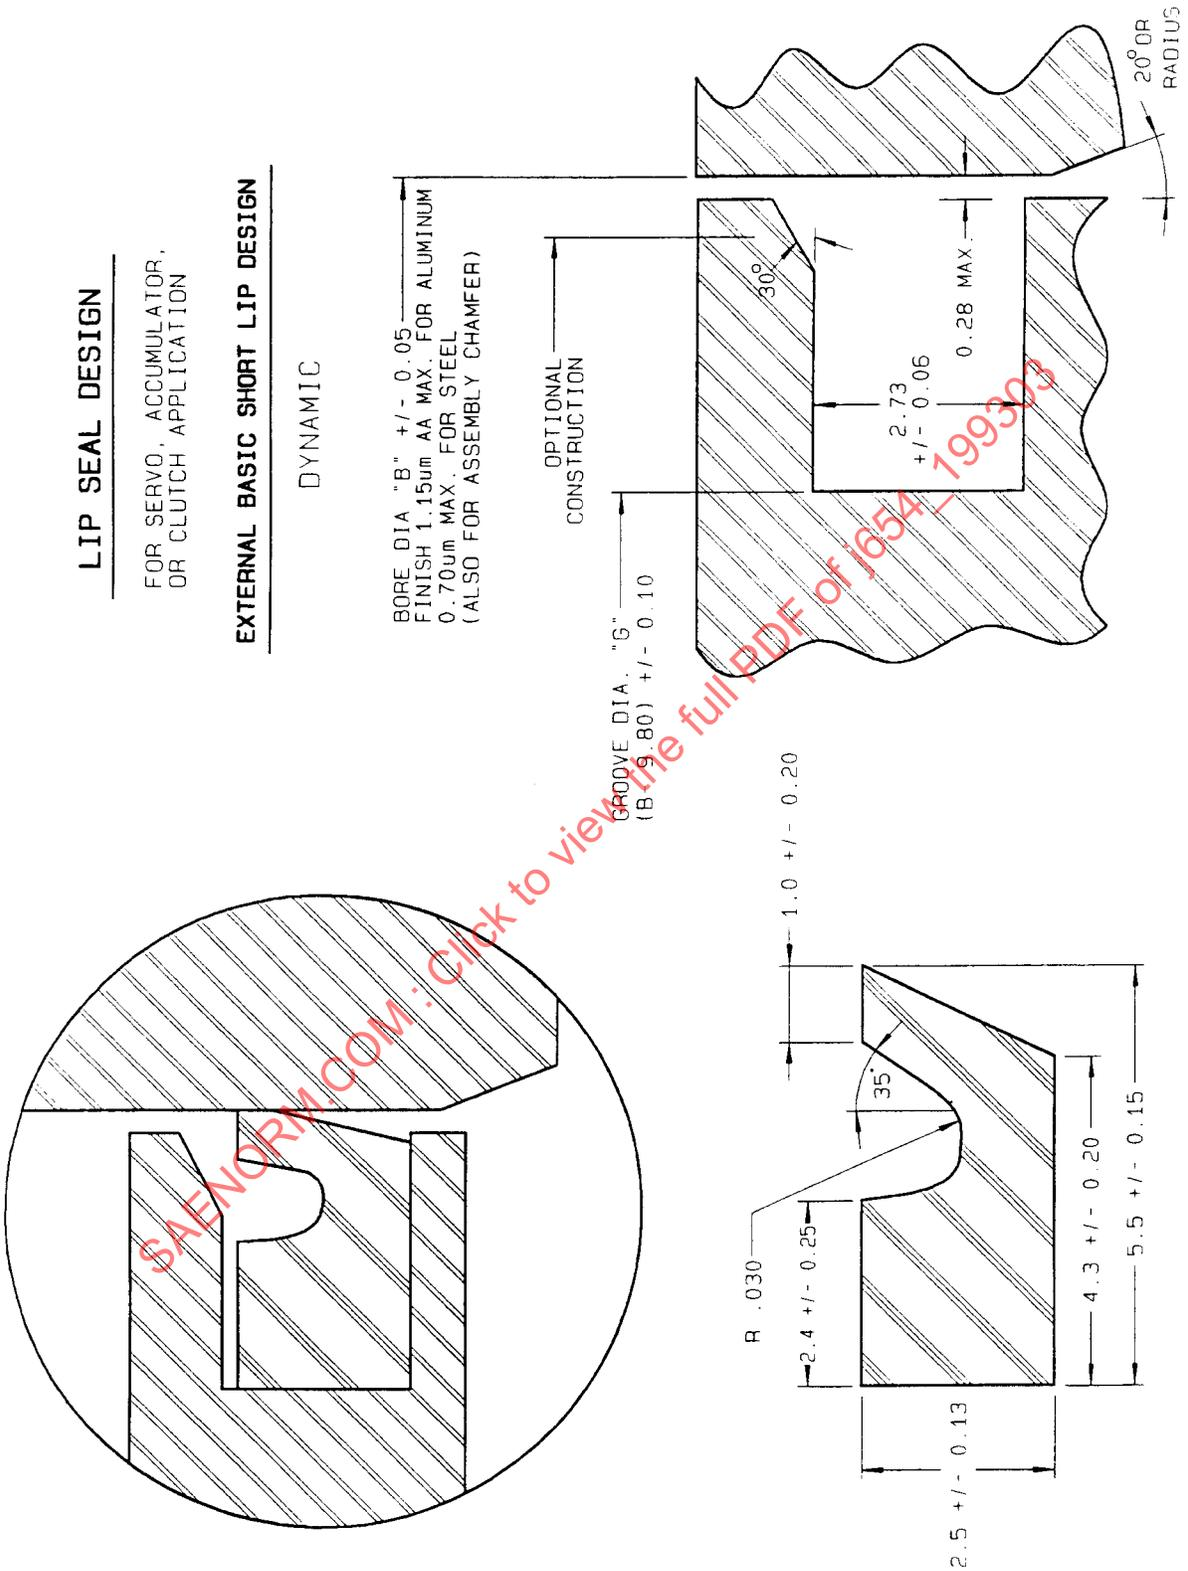

FIGURE 5—EXTERNAL BASIC SHORT LIP DESIGN
- 4.1 **Homogeneous**—Lip seals (Reference Figures 5 and 6) are elastomeric seals confined to the sealing location by a specially designed groove in either the bore or piston. Lip seals are used in dynamic applications in place of rectangular seals where lower friction is required. These seals function by the deflection principle where the pressure forces the lip and lip base against the elements being sealed. The sealing effort is, therefore, proportional to the pressure being sealed. Lip seals can either be molded or machined from blanks.
- 4.1.1 SUGGESTED TOLERANCES AND DIMENSIONING PRACTICES—The lip seals and grooves shown in Figures 5 and 6 are typical designs. These designs are dimensioned by use of bore diameters plus design constants to establish the lip diameters. The tolerances for these designs are typical for lip seals.
- 4.1.2 APPLICATION DESIGN DATA—The lip seals shown in Figures 5 and 6 can operate with fluid or air pressure. The bore diameter tolerances are specified on the drawing. General application requirements are listed in Table 2.